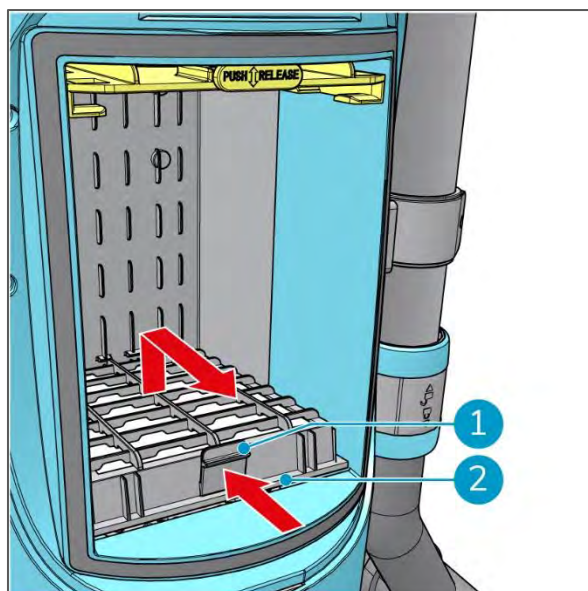
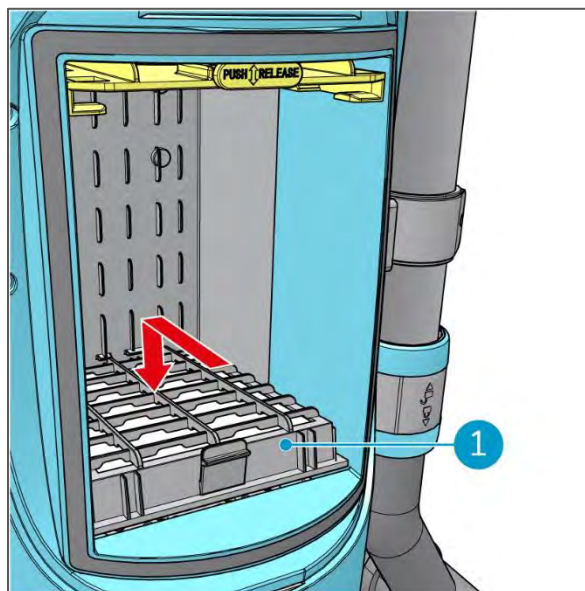

Figure 22
Figure 23
4. Slightly push the grey button (Figure 22, pos 1) to unlock the cassette filter.
5. Pull the cassette filter (Figure 22, pos 2) out of the body of the i-move 2.5B.
6. Push the new cassette filter into the body of the i-move 2.5B® (Figure 23, pos 1). When the grey button (Figure 22, pos 1) clicks, it is locked.